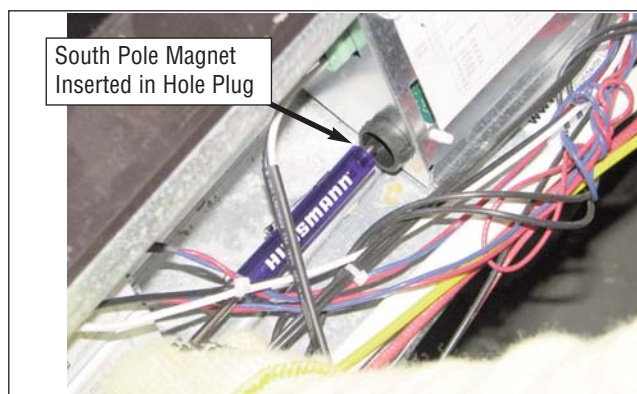

Figure 7 — Initiating Calibration Procedure
2. Activate the calibration magnetic switch (SW1) by inserting the magnetic end of the screwdriver into the hole plug on the left side of the module as shown in Figure 7.